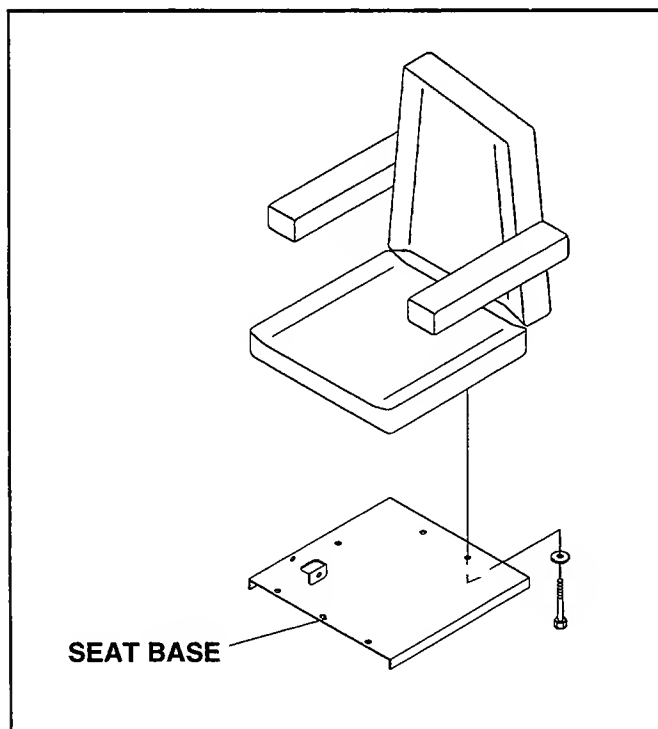

Figure 1
5. Attach the seat assembly to the seat base using four 5/16-18 x 3/4" bolts and 5/16" lock washers. (See Figure 1)